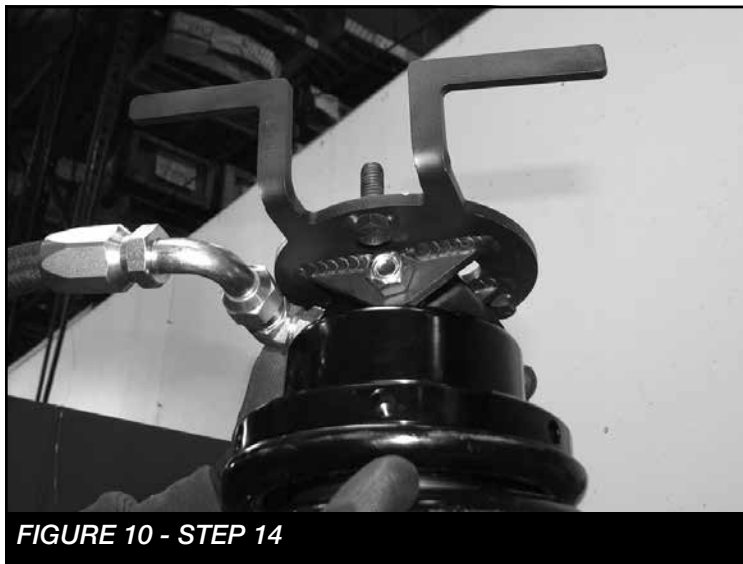

FIGURE 10 - STEP 14
14. REPEAT STEP 13 FOR THE PASSENGER SIDE. Use FTS835232P (Passenger Coilover), FT30727 (pass upper mount) bushings, misalignments and 1/2" hardware. SEE FIGURE 10 FOR COMPLETED ASSEMBLY.